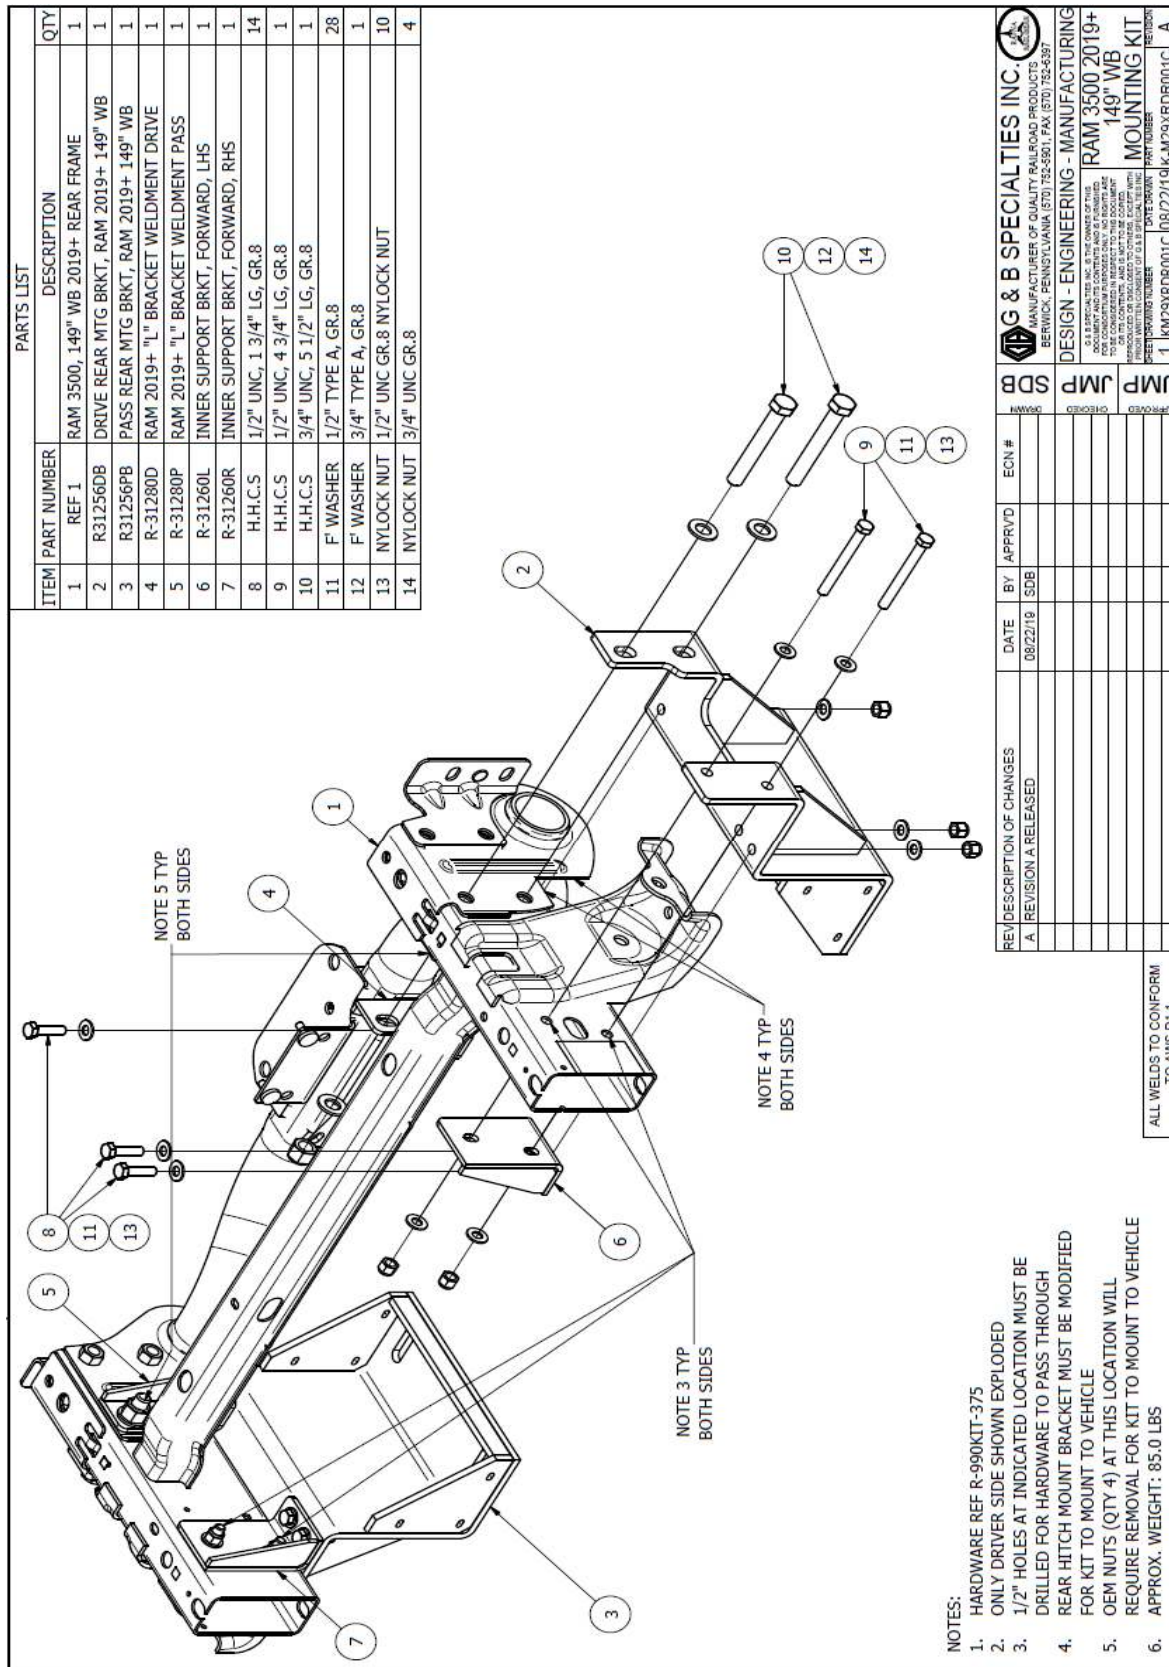

Figure 2: 3500 SB
6. Install the rear mounting bracket as shown using the supplied 3/4" and 1/2" hardware and support bracket as shown. Ensure the mounting bracket is flush with the outside and bottom surface of the frame rail. (Figure 2)
8. Using the holes in the rear mounting bracket as a guide, drill two 17/32" diameter holes thru the inside and outside frame rail. (Figure 2)
9. Complete the installation of the rear mounting bracket using the supplied 1/2" hardware and support bracket. (Figure 2)